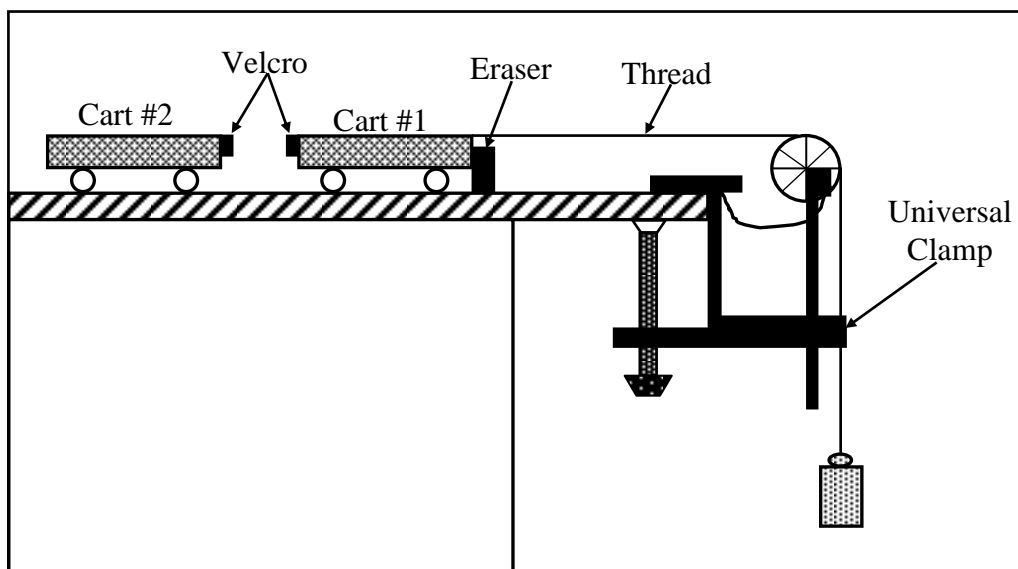

Figure 10.5: Equipment setup for inelastic collision
- 1- Set up the apparatus as shown in Fig.10.5. In order to create an elastic collision, put a piece of Velcro fastener on the front side of cart #1 and a piece of the opposite type of Velcro on the back of cart #2. Attach a piece of thread to cart #1. The thread should be about 10 cm longer than the distance from the cart to the floor. Connect the Smart Pulley to your computer, and make sure the proper connections have been made before going on.